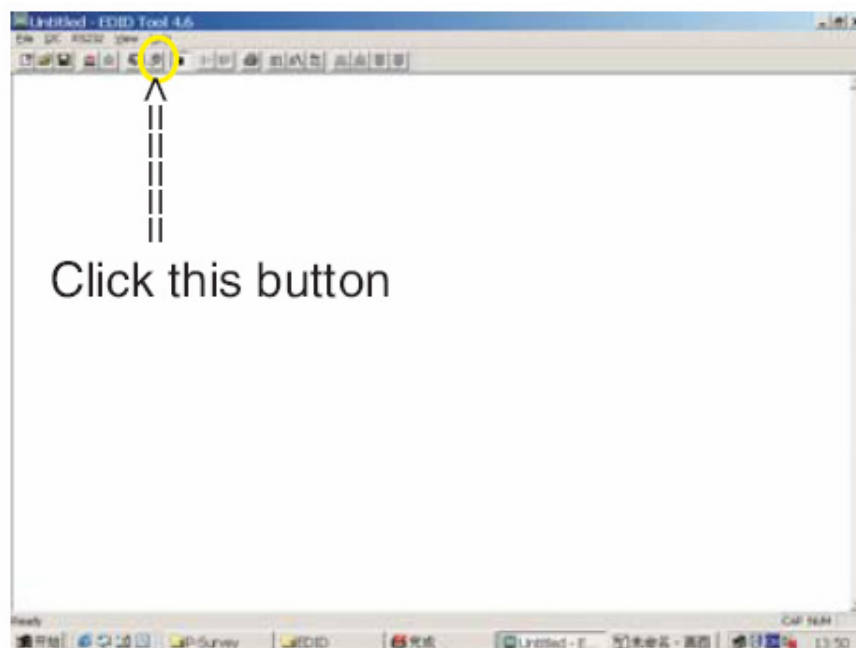

Fig. 11
1. Click  icon as shown in Fig. 11 from the tool bar to bring up the Channels "Configuration Setup" windows as shown in Fig. 11.